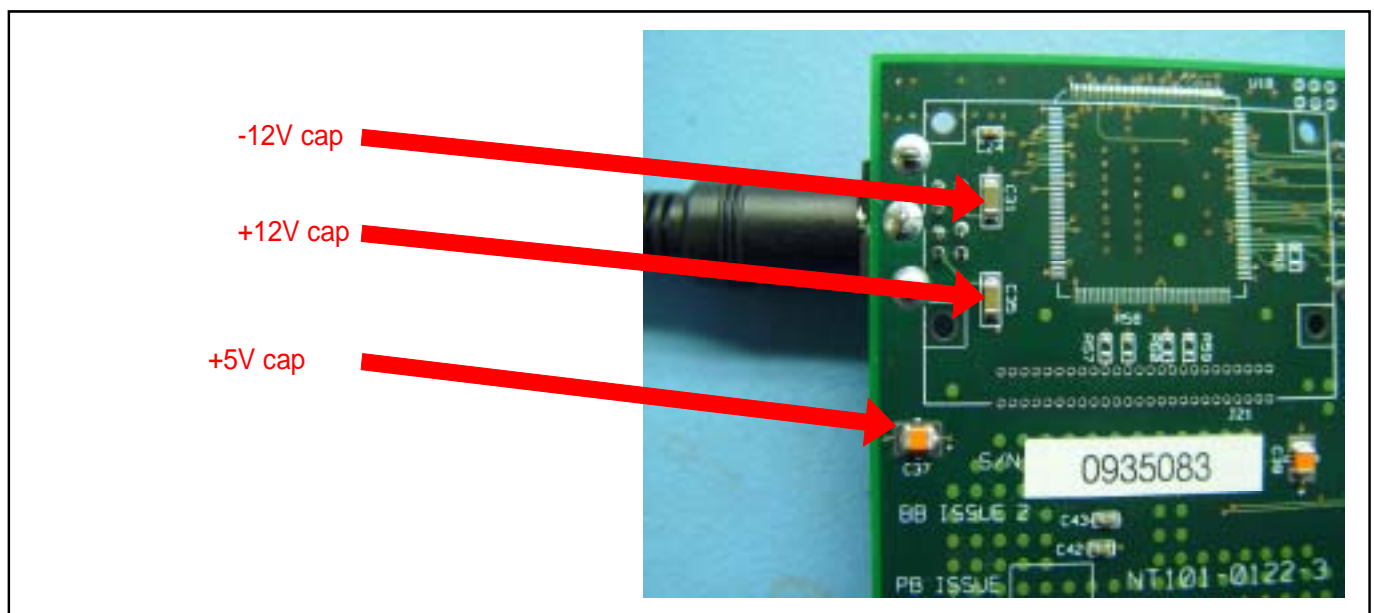

Figure 1: Voltage Measurement points on BenONE
- (1) Measure the voltage at the +5V terminals on the XtremeDSP Kit motherboard once the FPGA design is up and running. Figure 1 shows a capacitor (C37) across which the +5V can be measured. This capacitor is located on the bottom of the BenONE motherboard.